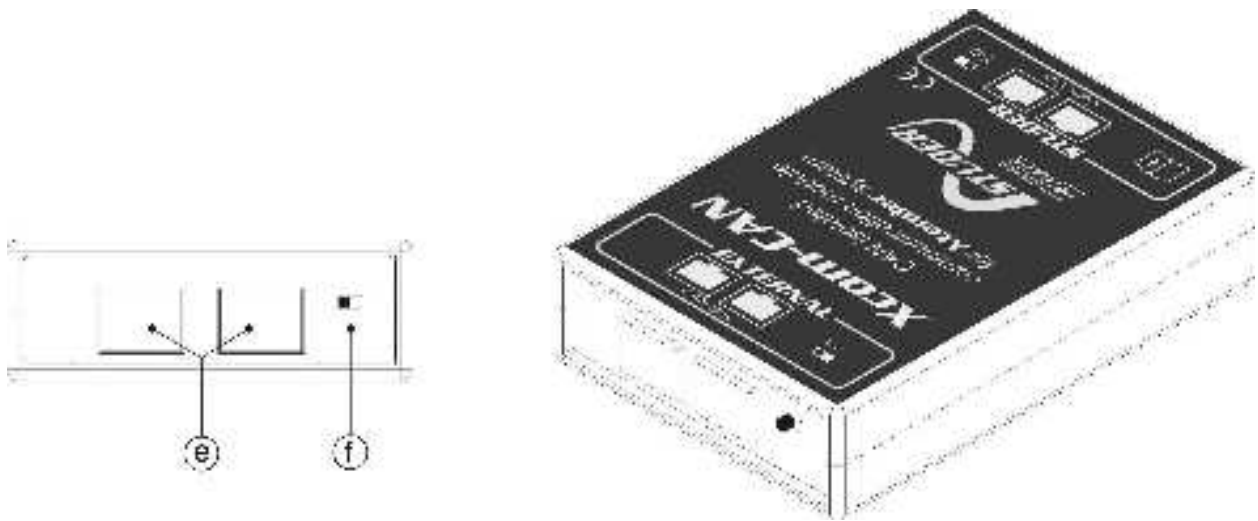

Figure 4: Back and isometric view of the Xcom-CAN
(f)	<p>Switch for CAN termination</p> <p>This switch activates or deactivates the communication bus termination. The termination is by default activated. In Figure 4, the termination is activated (T). Place the switch to the correct side: if there is only one cable connected on port e put the switch in T (terminated) position. If there are two cables connected on port e (Xcom-CAN connected to two other devices) place the switch in position O (open).</p>